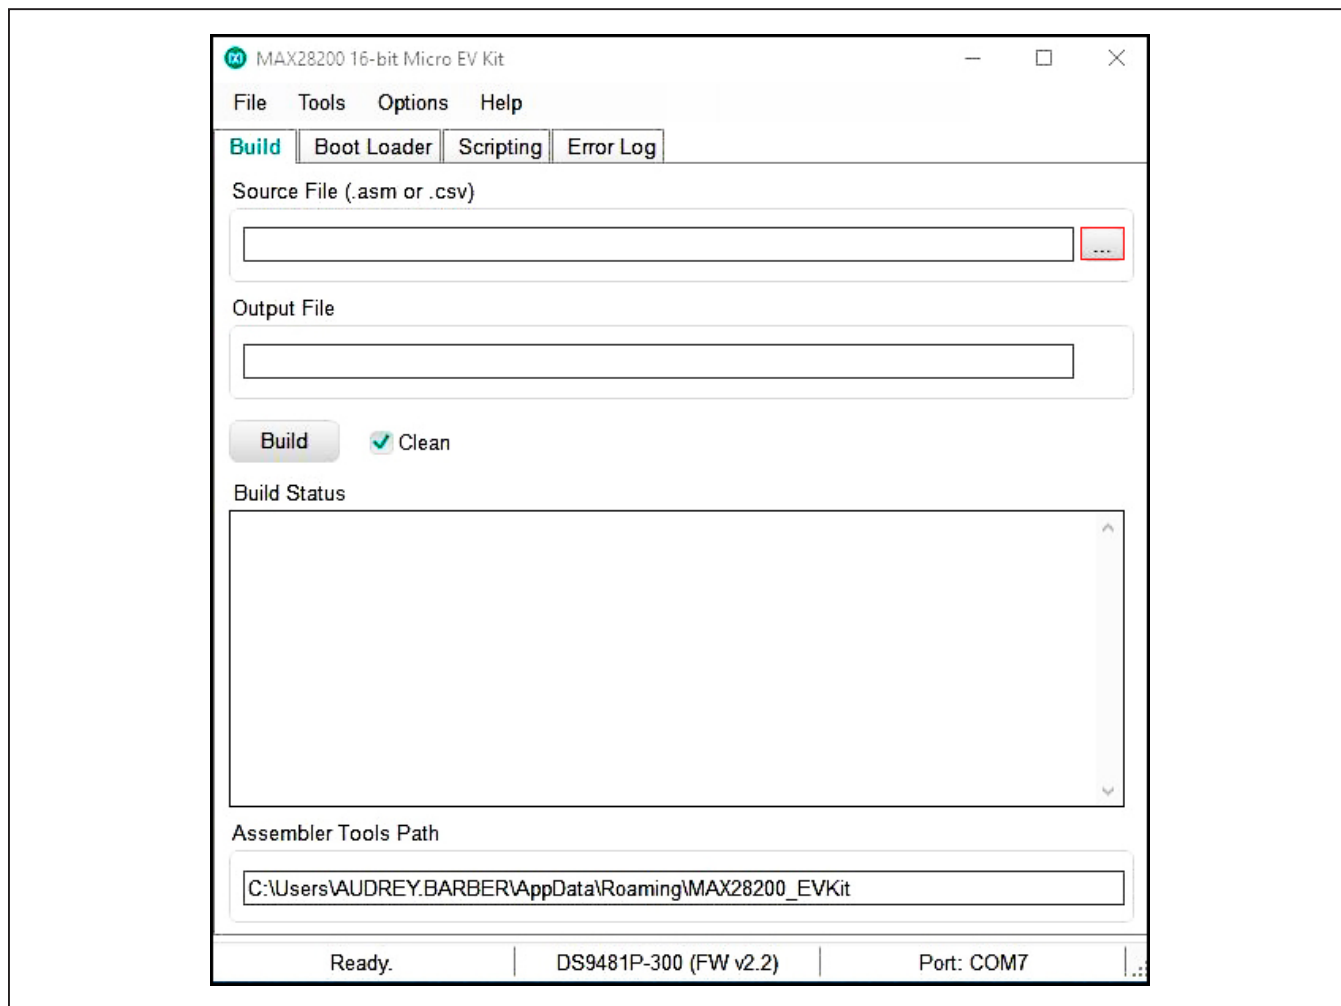

Figure 12. Select an .asm File from the Directory to Convert into .hex File
- 2) On the **Build** tab, click the ... button to the right of the **Source File** text box to select an .asm file (Figure 12).